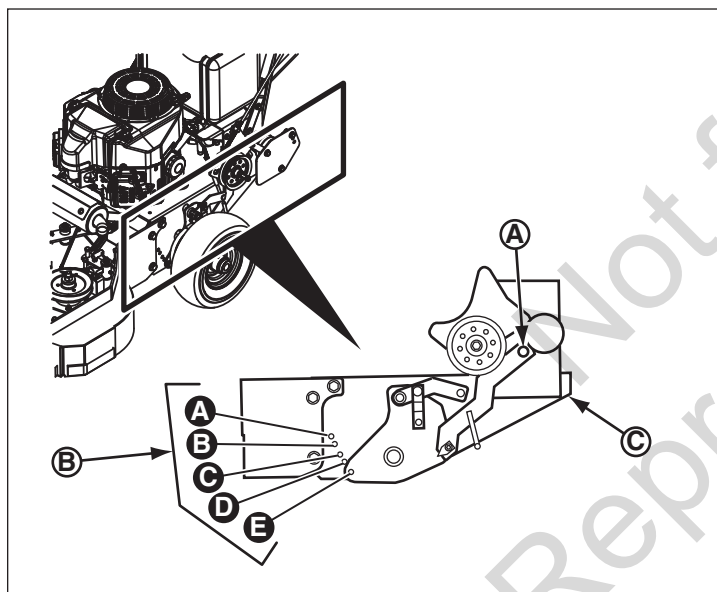

Figure 5. Adjusting the Axle Position (Left Side Shown with Tire and Pulley Guard Removed)
5. Loosen but do not remove the axle pivot bolts (**A, Figure 5**) and the axle position bolts (**B**).